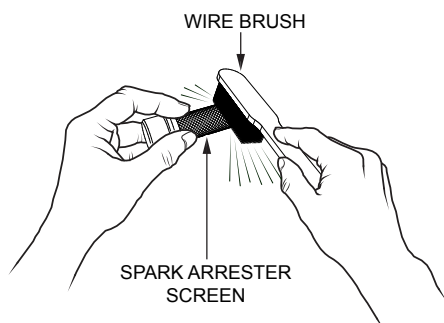

Figure 26. Cleaning The Spark Arrester
4. Carefully remove carbon deposits from the spark arrester screen (Figure 26) with a wire brush.